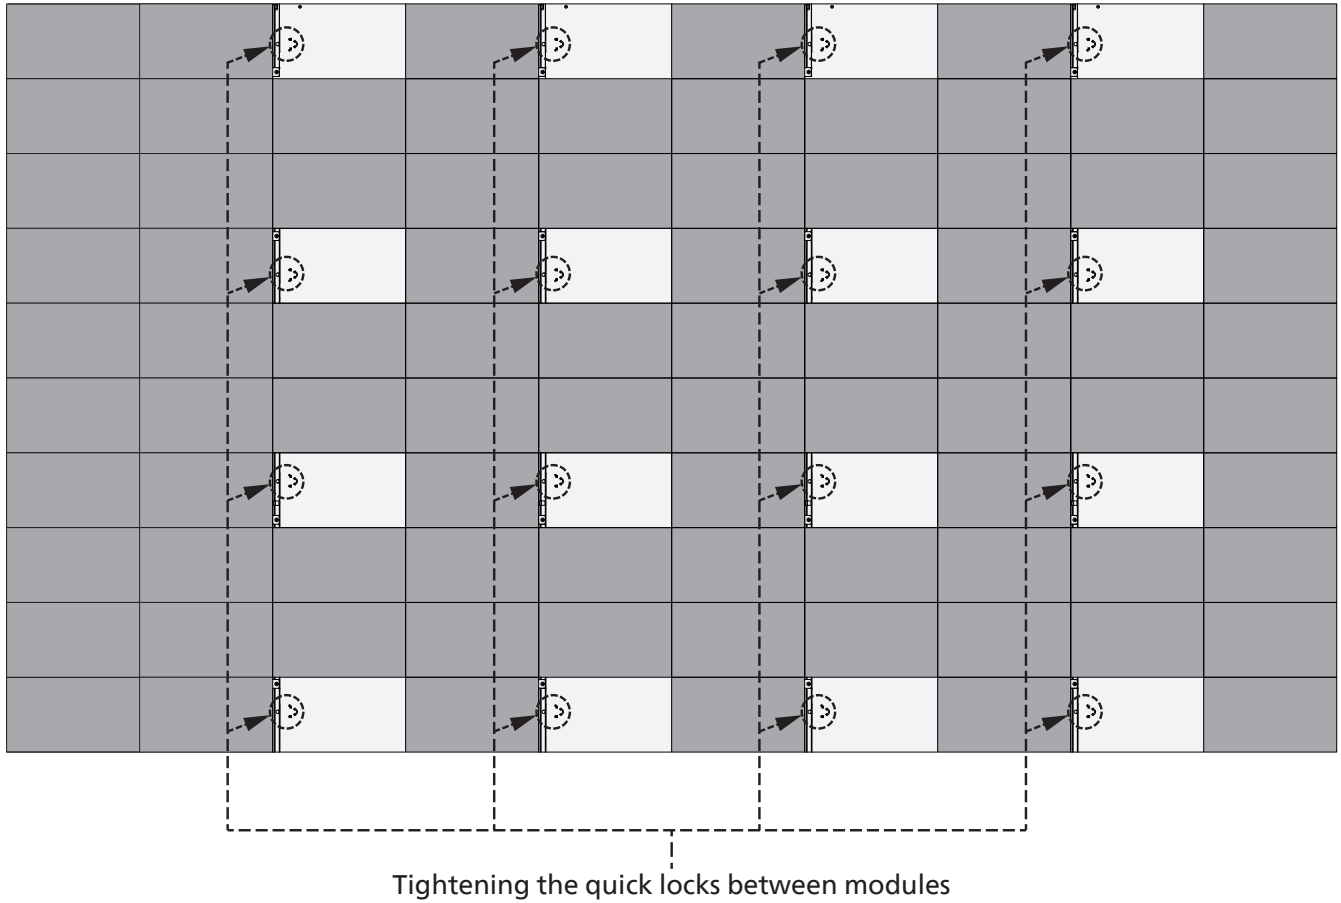

Figure 10 Diagram of the Inter-cabinet Quick-lock
- Before locking the adjacent cabinets, some modules need to be removed in order using the vacuum tool (the light-colored parts in the Figure 10 are the modules that need to be removed.), use the hex screwdriver to lock the B and A, C and B, D and C, E and D cabinets in sequence through the quick locks. Then put the top three columns of removed modules back in place in the sequence, as shown in Figure 10.